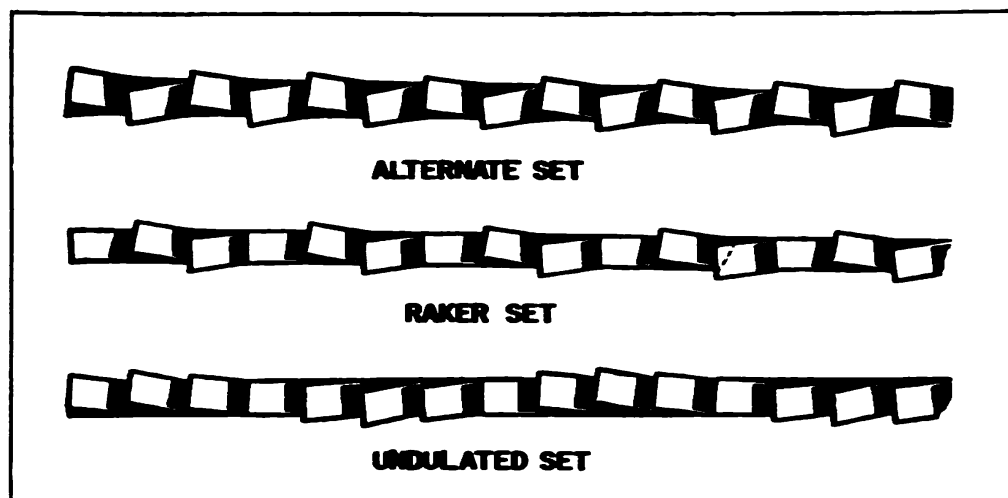

FIGURE 26.—Set of hacksaw blade teeth.
c. Set.—The teeth of all hacksaw blades are set to provide clearance for the blade; the three different kinds of set are alternate set, raker set, and undulated set, as shown in figure 26. Alternate set means that alternate teeth are bent slightly sidewise in opposite directions; on a raker set blade, every third tooth remains straight, and the other two are set alternately; on an undulated set blade, short sections of teeth are bent in opposite directions. A blade should be set just enough to give a free, smooth, rapid cut in a slot just wider than the blade itself, removing no more stock than is necessary.
d. Selecting hacksaw blades.—(1) Selecting the best hacksaw blade for a specific job is a question of using either an all-hard or flexible blade having a pitch (number of teeth per inch) best suited to the work in hand. The usual practice is as follows: